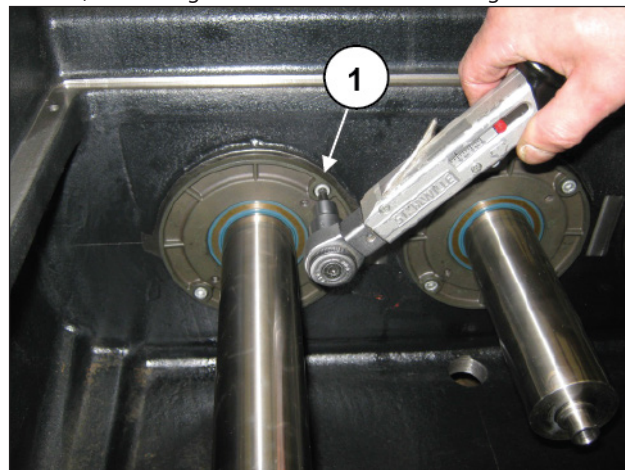

Fig. 140
Tighten the two M6 screws (pos. ①, Fig. 140) using a torque wrench, calibrating them as described in heading 3.